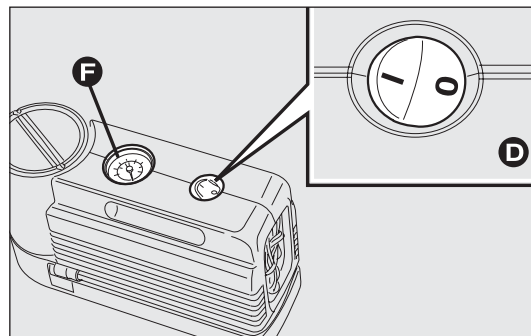
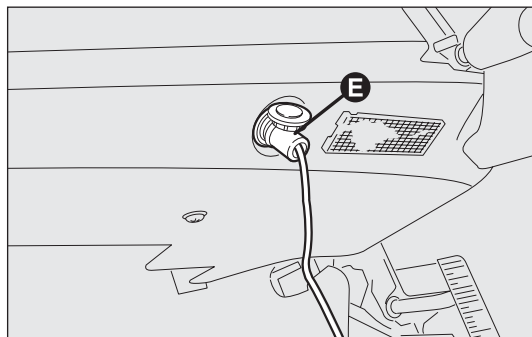

fig. 130
fig. 131
- ☐ make sure that switch D-fig. 130 for the compressor is in position O (off), start the engine, insert pin E-fig. 131 into the nearest socket and switch on the compressor by moving switch D-fig. 130 to position I (on). Inflate the tyre to the pressure value specified in paragraph "Inflation pressure" in chapter "Technical specifications".
Check tyre pressure on gauge F-fig. 130 with compressor off to obtain precise reading;